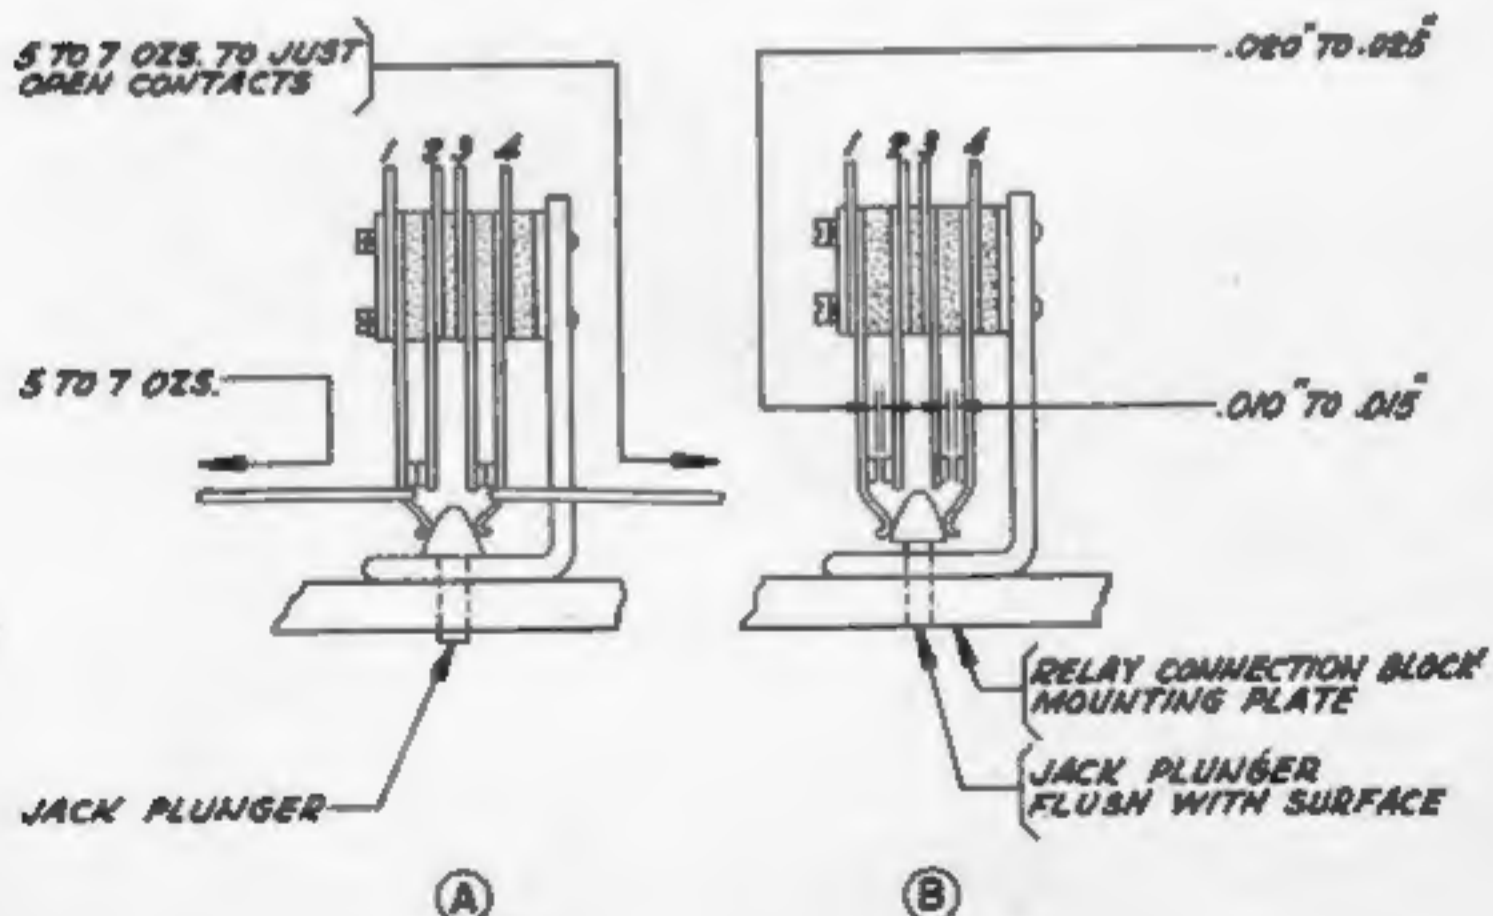

FIGURE 1
- A. When the jack plunger is held flush with the relay connection block mounting plate, there should be a gap of $.010''$ to $.015''$ between the contact points of No. 3 and No. 4 contact springs. See Figure 1-B.
- B. When the jack plunger is held flush with the relay connection block mounting plate there should be $.020''$ to $.025''$ clearance between the contact points of No. 1 and No. 2 contact springs. See Figure 1-A.
When an 8 oz. scale is hooked to contact springs No. 1 or No. 4 at right angles to the springs it should require a pull of 5 to 7 ozs. to separate the contact points of contact springs No. 1 and 2 or of contact springs No. 3 and 4 respectively. See Figure 1-A.